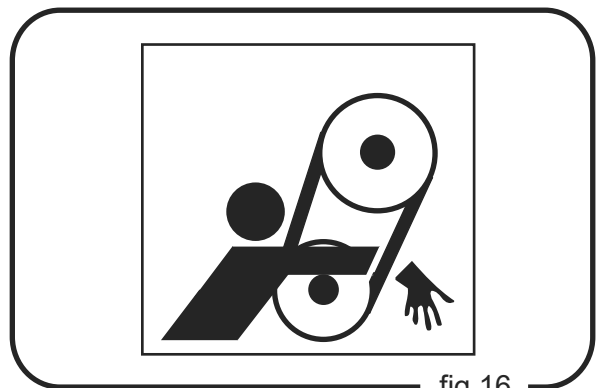

fig.16
3. **Be careful not to get your hand caught between the belt and clutch pulley. Injury may occur. Wear gloves when performing this operation. (Fig. 16)**